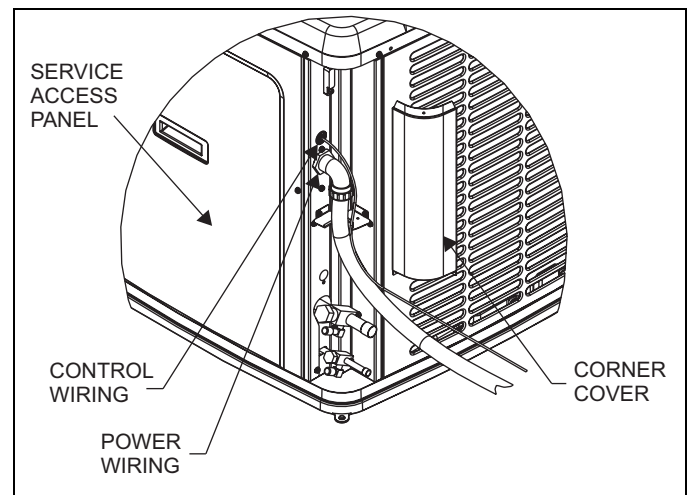
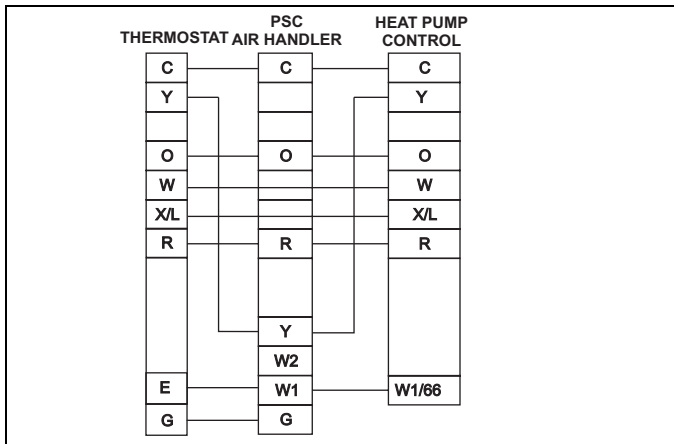

FIGURE 5: Typical Field Wiring
FIGURE 7: Typical Air Handler Conventional Heat Pump Thermostat Wiring
2. Remove the screws at the bottom of the corner cover. Slide corner cover down and remove from unit. See Figure 5.
4. Remove the service access panel to gain access to the unit wiring. Route wires from disconnect through power wiring opening provided and into the unit control box as shown in Figure 5.
1. Route low voltage wiring into bottom of control box as shown in Figure 5. Make low voltage wiring connections inside the junction box per Figures 7 & 8.